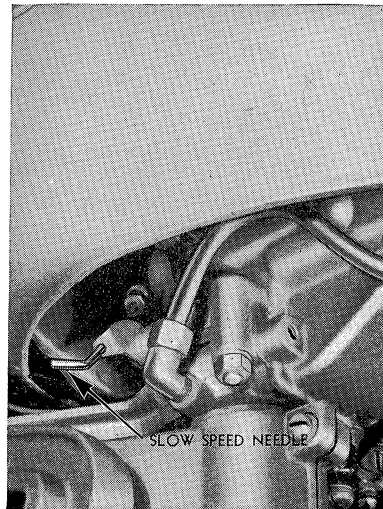

Fig. 16. Showing Location of Slow Speed Needle.
5. Retard spark by moving magneto lever to position midway between center and full retard (left of center facing motor). Turn slow speed needle, Fig. 16, to left or right as required to obtain smooth and consistent running at slow speeds.